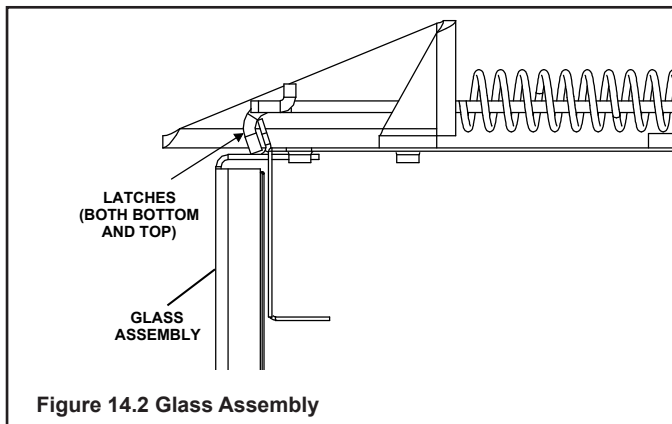

Figure 14.2 Glass Assembly
- When placing Glowing Embers® onto the burner care should be taken so that the ports are not covered. Place the dime-size ember pieces in front and behind of the port trail, but not on or in between the ports (see Figure 14.2). Failure to follow procedure will likely cause lighting and sooting problems.
Pull the four glass assembly latches out of the groove on the glass frame. Remove glass door from the appliance (see Figure 14.2).